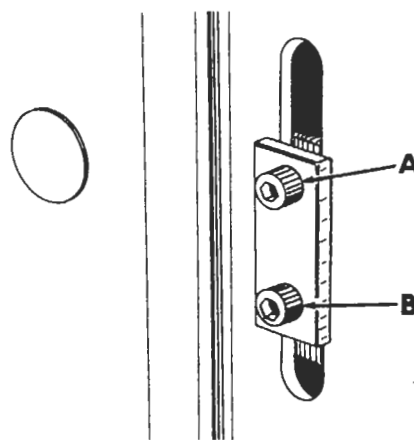

Figure 56
17. Remove screws (A and B, fig. 56).